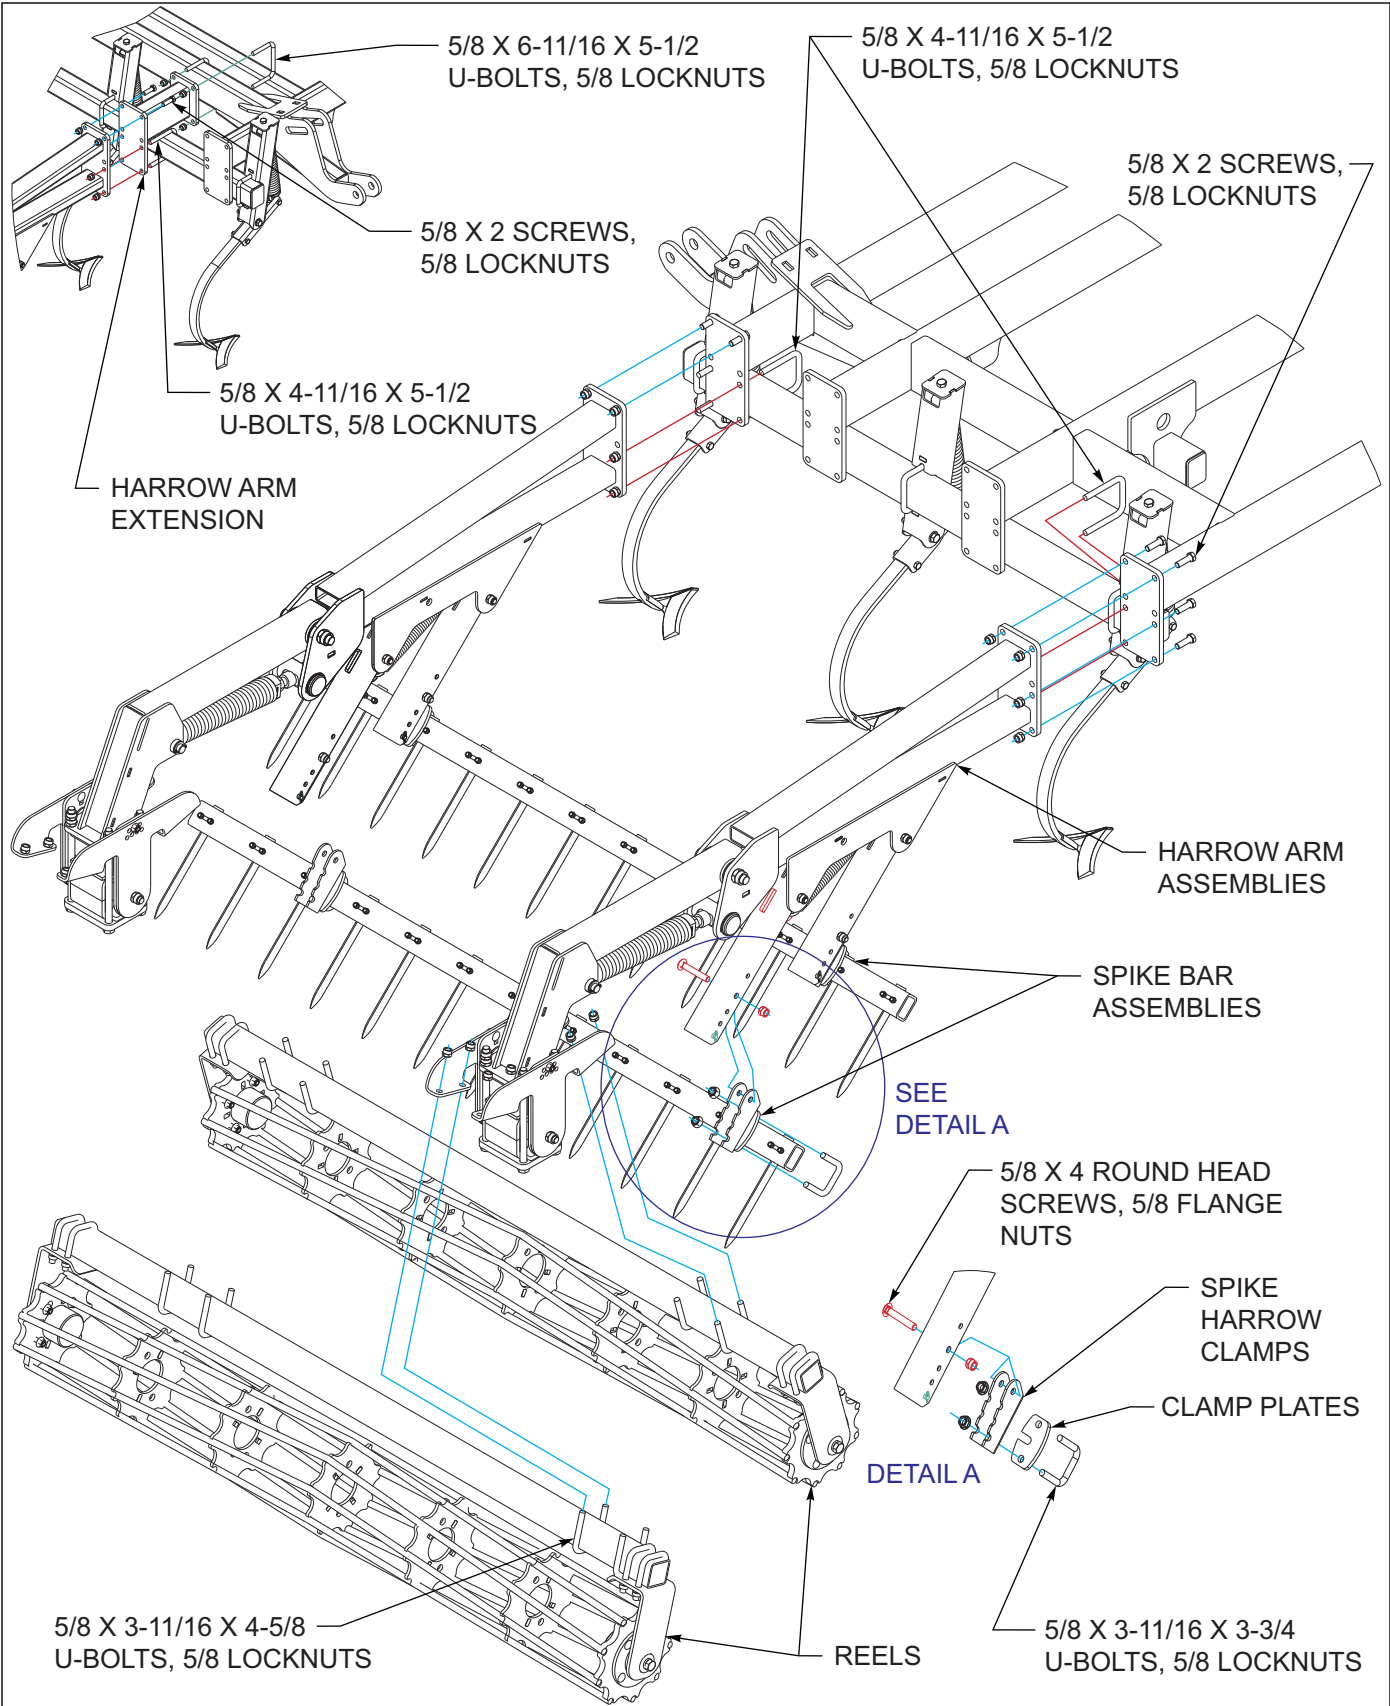

Figure 3-39: Spike & Double Reel Installation
1. On 30'-35' machines install the harrow arm extensions to the inner wings locations, using 5/8 u-bolts and 5/8 locknuts See Figure 3-39.